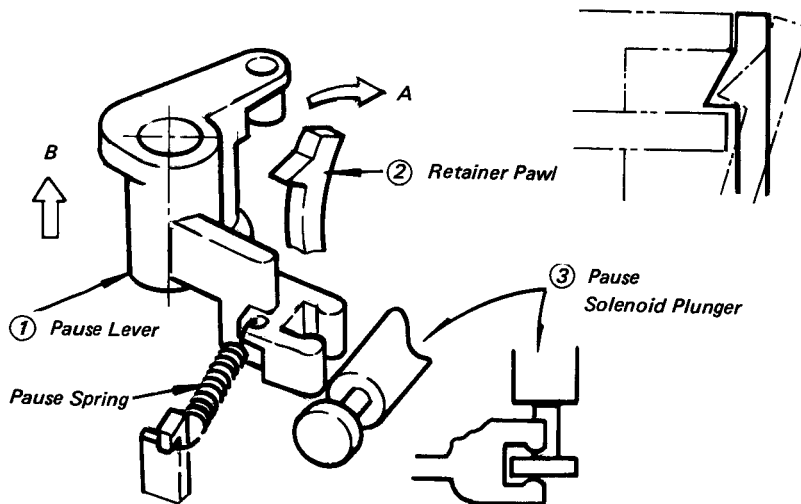

Fig. 5-40 Pause Lever Detaching
3. Also, mount and push the pause lever ① until this cannot be extracted as fastened by the reel chassis retainer pawl ② so that the pause lever ① can be fitted with the pause solenoid plunger ③ as shown in Fig. 5-40.